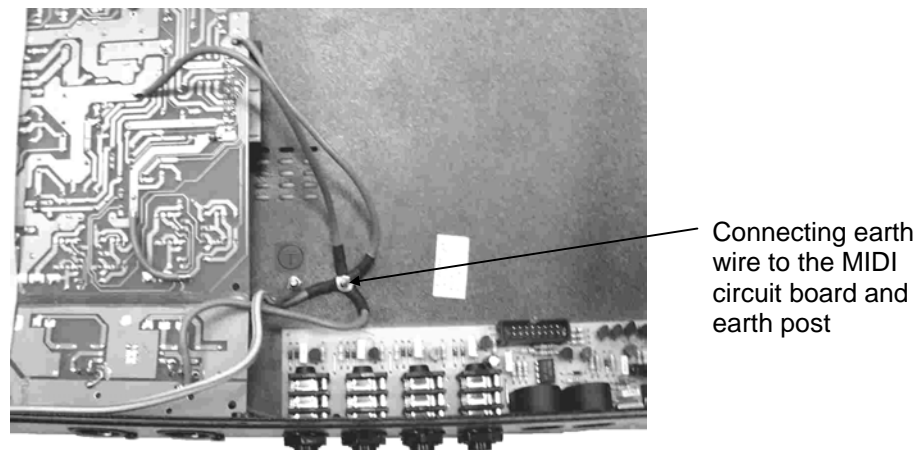

fig.6
- 3) Remove the connecting earth wire to the MIDI circuit board from the earth post (see fig.6)